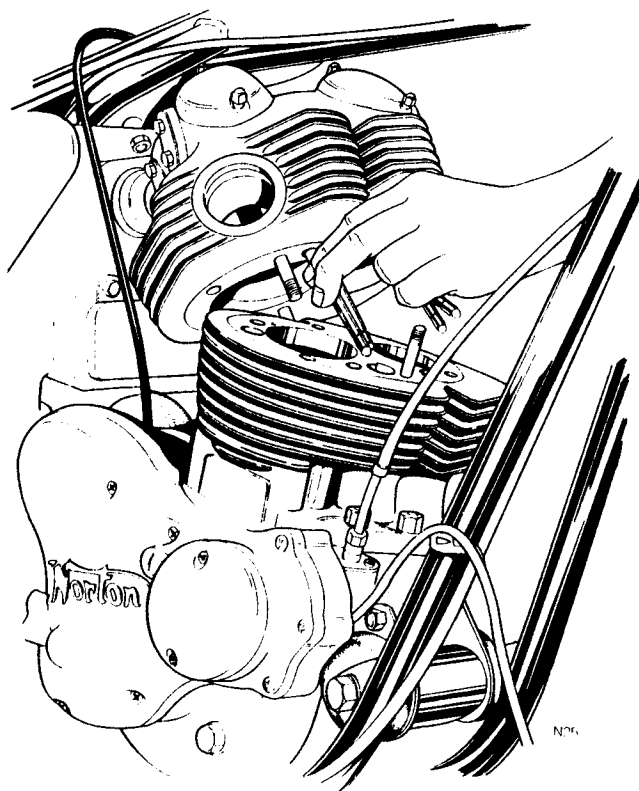

Fig. C3 Tilting cylinder head with pushrods held into cylinder head.
- 11 To achieve the minimum valve lift position and allow maximum space for removing the cylinder head, turn the engine by revolving the rear wheel with top gear engaged until the pistons are as near as possible to top dead centre. The Mk III engine incorporates an inspection plug in the crankcase bowl for locating T.D.C. See fig. C3.
- 13 Lift the cylinder head from either side of the motorcycle, support with one hand and slide the pushrods as far as possible into the cylinder head. Fig. C3 shows the cylinder head tilted to the rear to facilitate the operation.